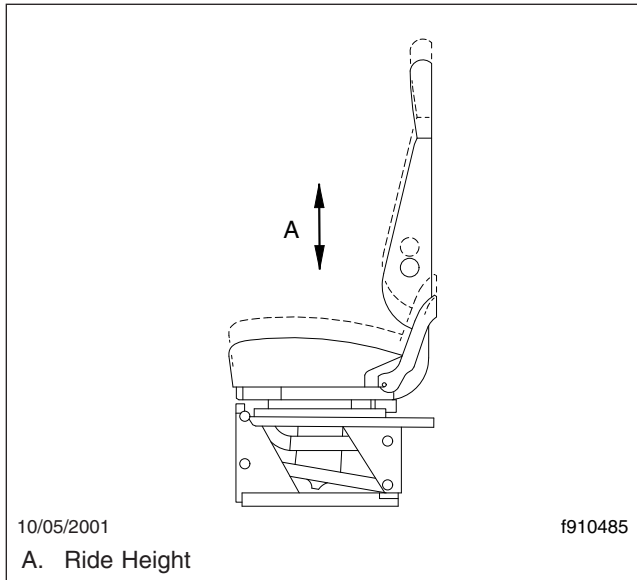

Fig. 5.19, Ride Height Adjustment
8. Ride Height Adjustment: The entire seat moves up or down when adjusting the ride height. The adjustment is either manual or air controlled, depending on the make and model of the seat. See Fig. 5.19.